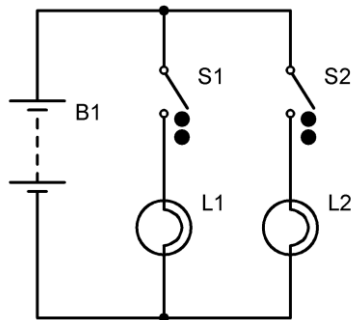

Figure 3 – Series-parallel circuit 2
c) Identify **ONE** series and **ONE** parallel sub-circuits from the circuit shown in Figure 3 below. Write your answer in the space provided including references to B1, S1, S2, L1 and L2.